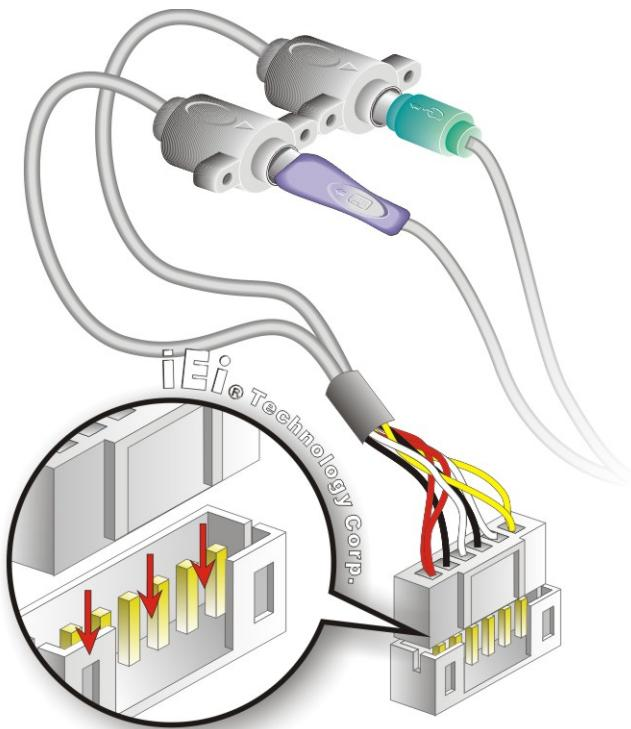

Figure 5-24: Keyboard/mouse Y-cable Connection
Step 2: Align the connectors. Correctly align pin 1 on the cable connector with pin 1 on the NOVA-9452 keyboard/mouse connector. See Figure 5-24.
Step 3: Insert the cable connectors Once the cable connector is properly aligned with the keyboard/mouse connector on the NOVA-9452, connect the cable connector to the onboard connectors. See Figure 5-24.
Step 2: Align the connectors. Correctly align pin 1 on the cable connector with pin 1 on the NOVA-9452 40-pin serial port connector. See **Figure 5-24**.
Step 3: Insert the cable connectors Once the cable connector is properly aligned with the 40-pin serial port connector on the NOVA-9452, connect the cable connector to the onboard connectors. See **Figure 5-24**.